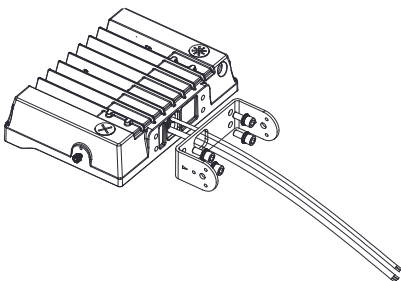

Fig 6.3
Step 2: Run the glue wire through the hole in the mounting bracket and secure the fixture and bracketed with an inner hexagon screw (Watch out not to scratch the glue wire) Figure 6.3